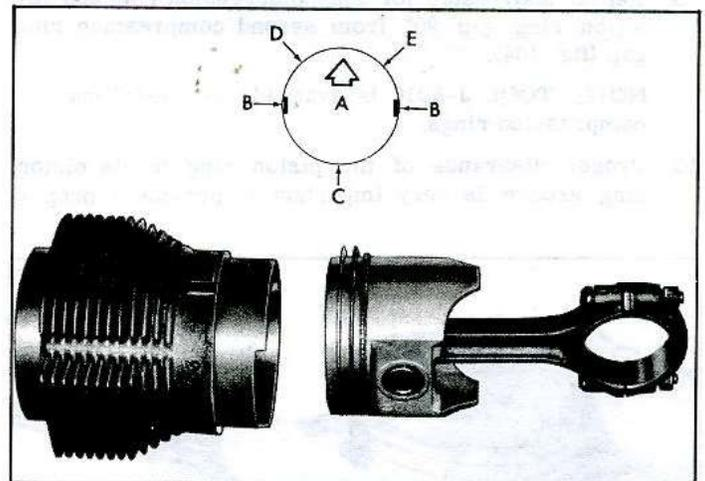
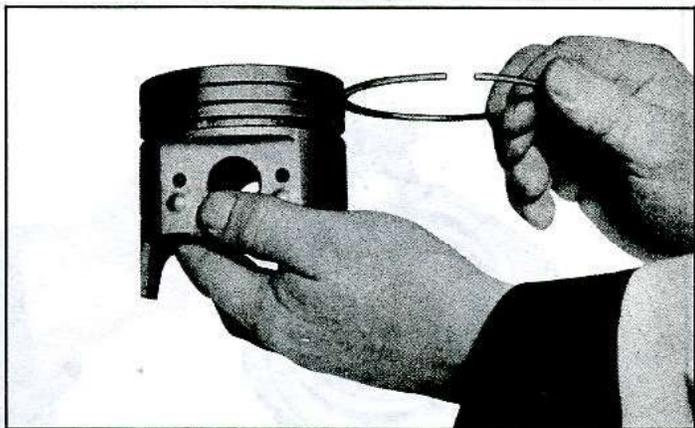

Fig. 104—Piston Rings Installed
Fig. 105—Rolling Ring in Groove
- Install the oil ring spacer in the oil ring groove and position gap so when piston is installed gap will be in line with engine bottom. (Anti-rotation tang will lock in oil slot.) Hold spacer ends butted and install steel rail on lower side of spacer. Position gap so when piston is installed gap will be in line with top of engine 45° from piston pin (fig. 104), then install
second rail on upper side of spacer. Position gap so when piston is installed gap will be in line with top of engine 90° from lower rail (fig. 104).
8. Slip the outer surface of the second compression ring into the piston ring groove and roll the ring entirely around the groove to make sure that the ring is free and does not bind in the groove at any point (fig. 105). If binding occurs; the cause should be determined and removed by carefully dressing with a fine cut file. However, if the binding is caused by a distorted ring, check a new ring. Install ring and position gap so when piston is installed gap will be in line with top of engine 45° from piston pin (fig. 104).
9. Repeat above step for top compression ring and position ring gap 90° from second compression ring gap (fig. 104).